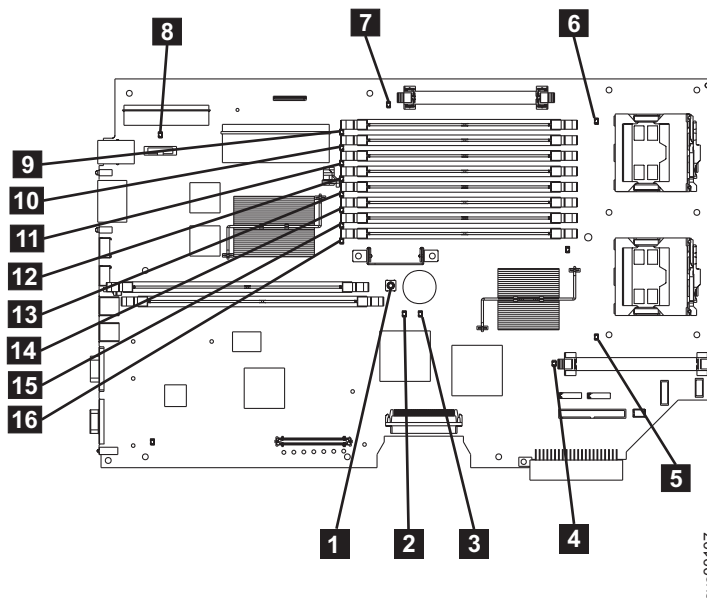

Figure 102. SAN Volume Controller 2145-8F2 and SAN Volume Controller 2145-8F4 system board LEDs
**YES** See Table 63 on page 301 and perform the action specified for the specific light path diagnostics LEDs, then go to step 3 on page 302. Some actions will require that you observe the state of LEDs on the system board or on the fan backplanes. The location of the system board LEDs are shown in Figure 102 on page 300. The fan LEDs are located adjacent to each FAN. To view the LEDs you will need to do the following:
- d. Press the light path diagnostics button **1**. See Figure 102.